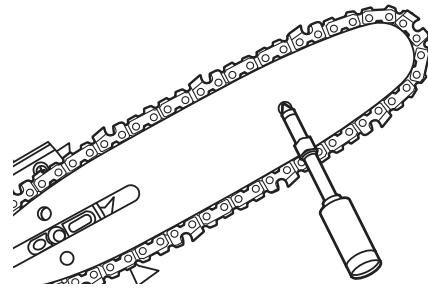

Figure 16
3. Using disposable lube gun (not included), insert needle nose into the lubrication hole and inject grease until it appears at the outside edge of the sprocket tip. See Figure 16, right.